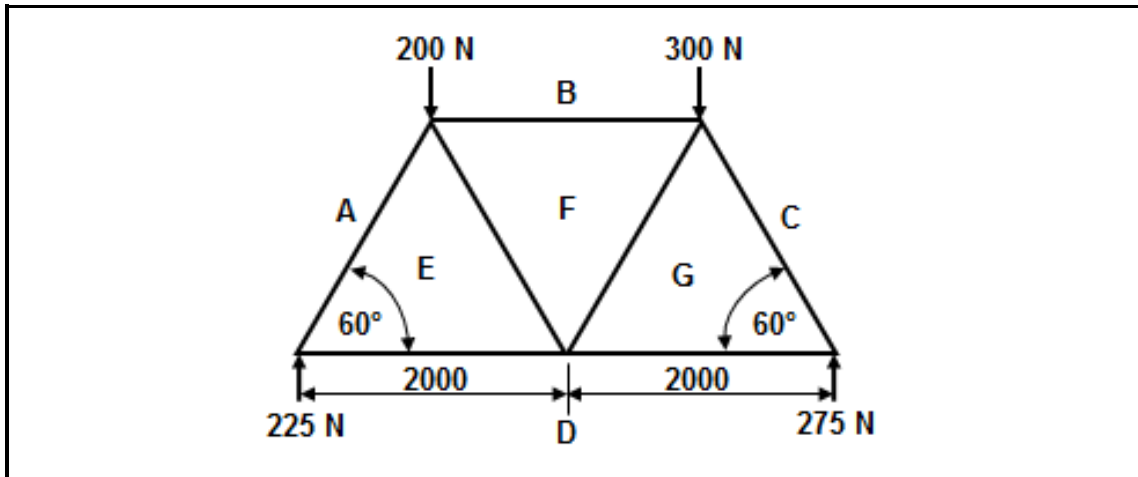

FIGURE 7.1
7.1 Determine graphically (Bow's notation) the magnitude and nature of ALL the members of the framework in FIGURE 7.1 below.